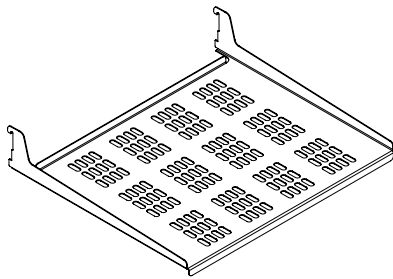

Figure 31
(2) perforated metal cantilever shelves. (See Figure 31).